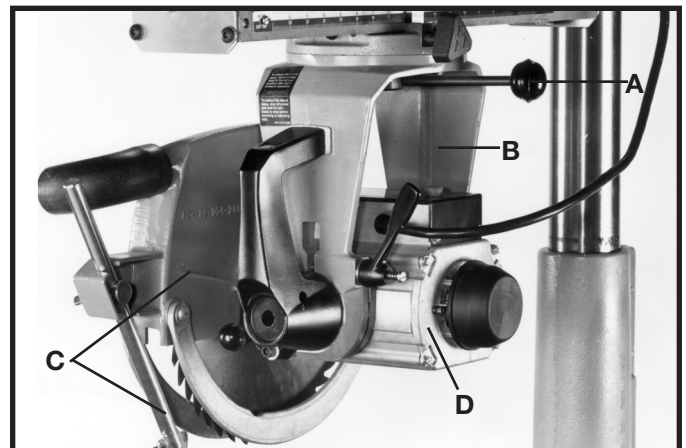

Fig. 37
The yoke clamp handle (A) Fig. 37, allows the yoke (B) to rotate to the rip or cross-cut positions. To reposition the cuttinghead, push yoke handle (A) to the rear and turn yoke (B) to desired position; to lock the yoke in position, pull yoke clamp handle toward you.
If the yoke clamp handle (A) Fig. 37, does not lock the yoke completely, or does not lock in a convenient position, the handle can be adjusted as follows:
2. Remove blade guard assembly (C) Fig. 37, and saw blade.
3. Remove rear end plate from track arm and remove cuttinghead assembly (D) Fig. 37, from track arm.
4. Loosen yoke clamp handle (A) Fig. 37, and remove cotter pin (E).